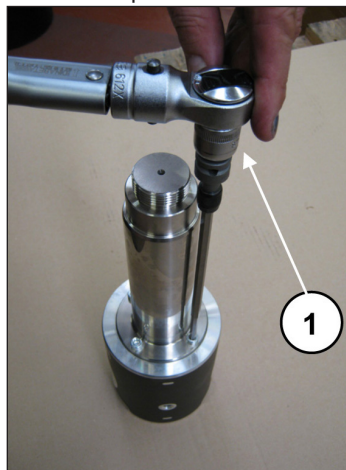

Fig. 49
Insert the piston guide rod into its seat on the piston guide (pos. ①, Fig. 48) and fix the rod to the piston guide by means of the 4 M6x20 screws (pos. ①, Fig. 49).
Proceed to calibrate the screws with a torque wrench (pos. ①, Fig. 49) as indicated in chapter 3.